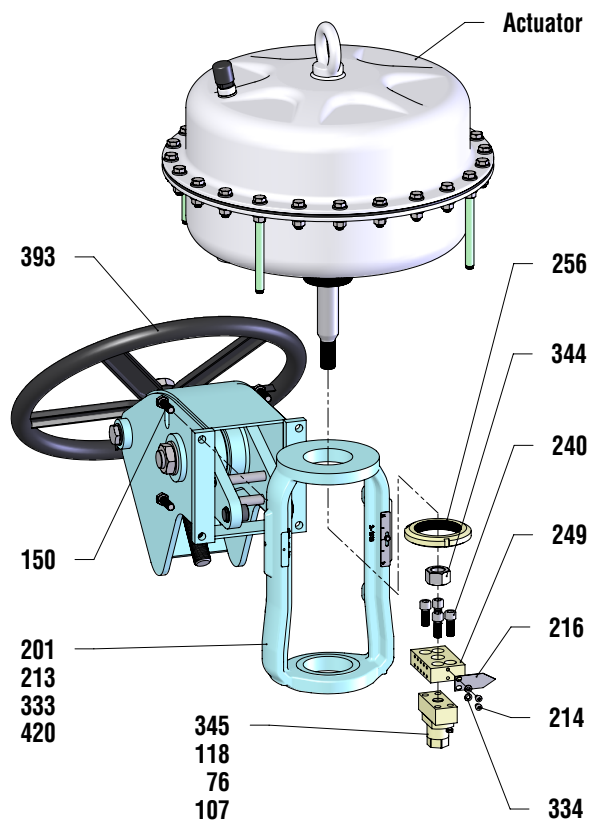

Figure 32: Coupling parts
10. If necessary mount actuator onto the yoke (201) put in line with the mark and tighten the actuator locknut (256) counter-clockwise. The vent plug shall be at a right angle to the yoke legs (see figure 32).
11. Screw in the lock nut (344) and the actuator coupling (249) - screw-in depth once thread diameter - counter-clockwise and fix it. Aligning the coupling parallel to the yoke.
12. Mount the stroke indicator (216), plain washers (334) and the socket head screws (214) clockwise.
13. Place the side-mounted handwheel (393) mount the hex bolts (150) clockwise.